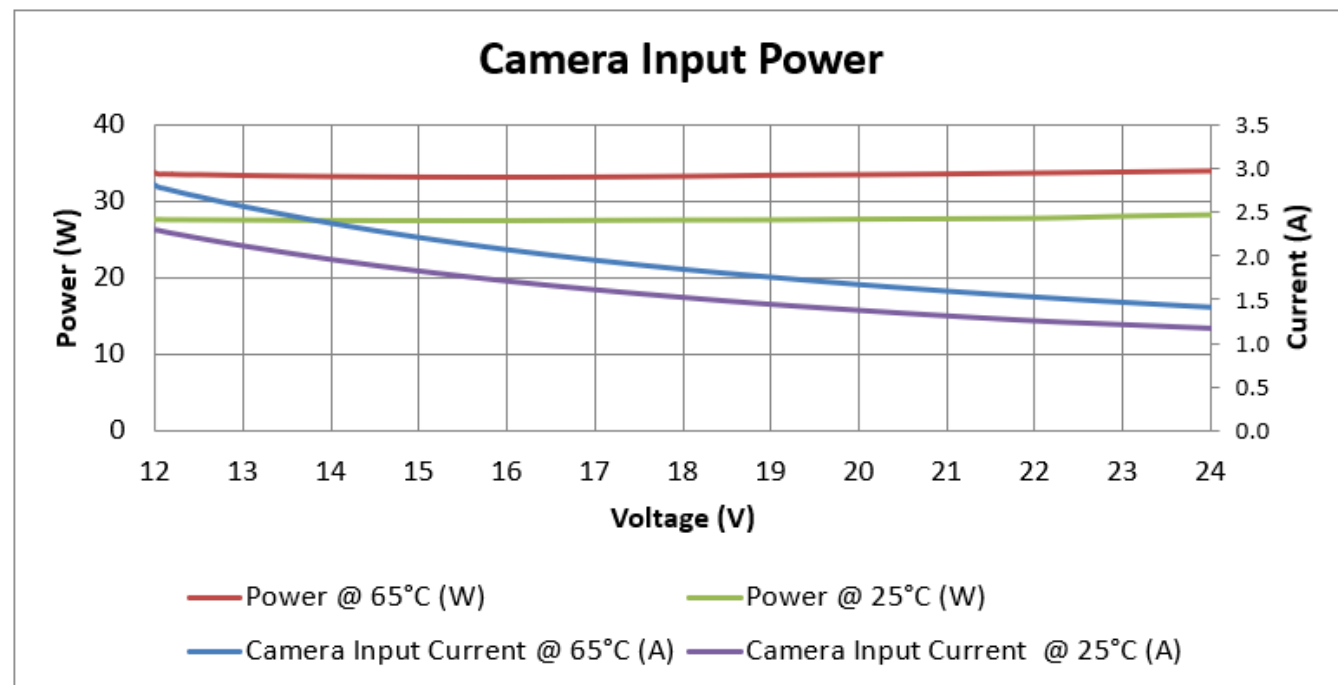

Figure 1: Power and Temperature\*
- Power dissipation increases with temperature. See Figure 1: Power and Temperature.